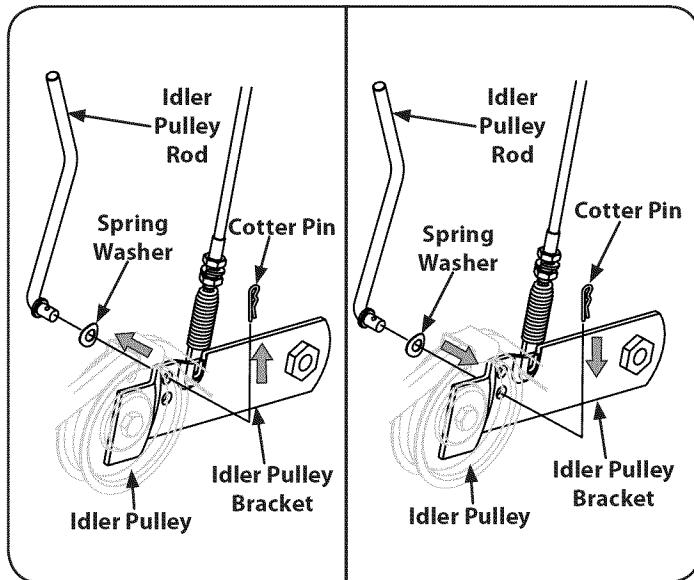

Figure 32
3. Remove the cotter pin and spring washer from the idler pulley rod. See Figure 32.